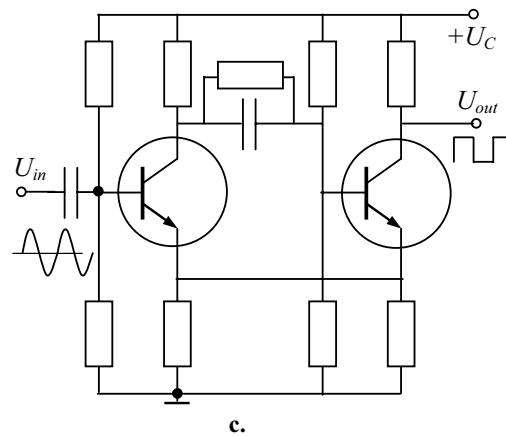

Fig. 2.49
**Schmitt triggers.** A *Schmitt trigger* is shown in Fig. 2.49,a and its circuit symbol is in Fig. 2.49,b. This is a switching circuit with a positive feedback, the output of which is always flat-topped and steep-sided, whatever the input waveform. This component is a type of a comparator with hysteresis that produces uniform-amplitude output pulses from a random-amplitude input signal. It has applications in pulse systems, for example, converting a sine wave into a square wave.
Another version of the Schmitt trigger is shown in Fig 2.49,c.